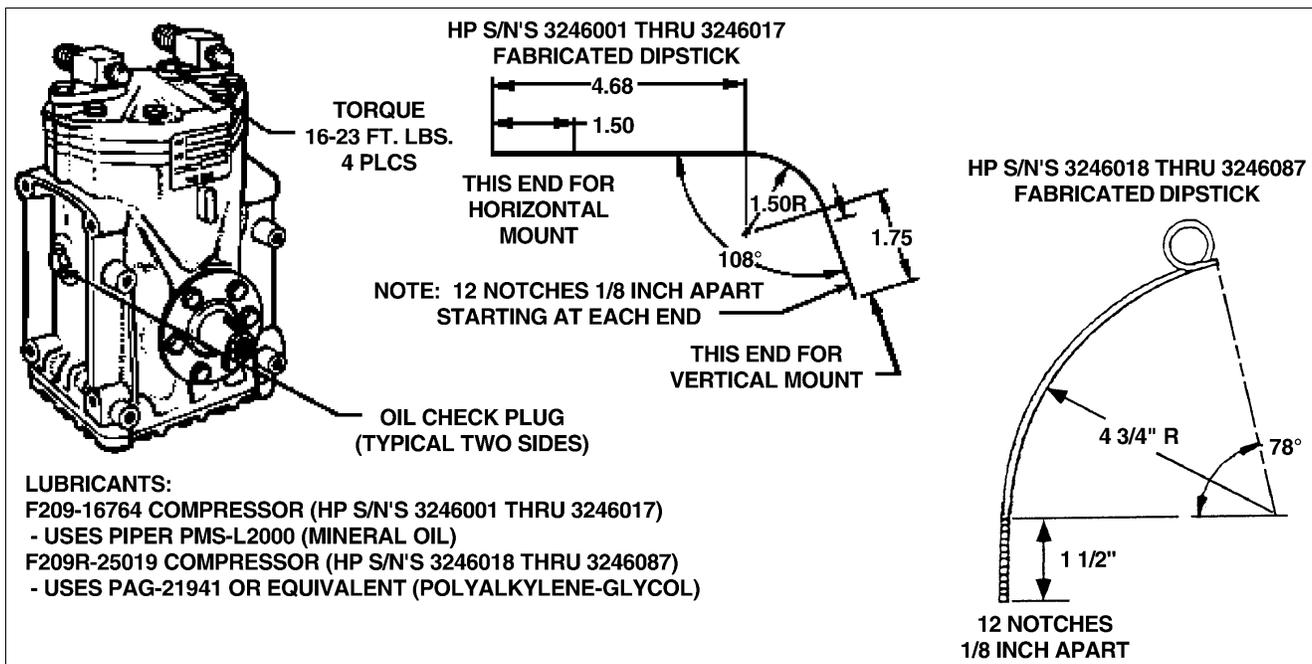

Figure 21-10. York Compressor and Fabricated Oil Dipstick (HP S/N's 3246001 thru 3246087 only)
(1) York Compressor (HP's 3246001 thru 3246087 only):
- (b) Make an oil dipstick. ( ref. Figure 21-10 )
- (d) Before inserting dipstick, crankshaft Woodruff key must be in up position. (Front face of compressor clutch is marked with a stamped K indicating key position.) Measure oil level from lowest point in crankcase. Use long end of dipstick ( ref. Figure 21-10 ).